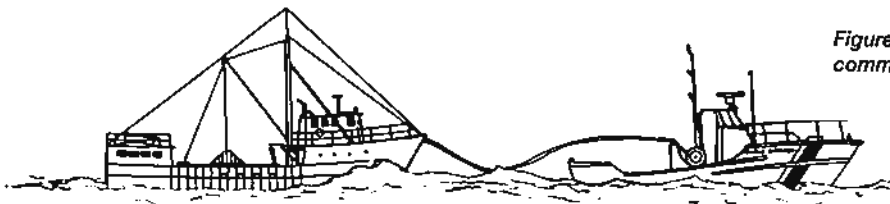

Figure 10-4. Steer and maintain the communications schedule with the towing vessel.
- * Once in tow, keep a 24-hour watch in the pilot-house to steer and/or maintain the communications schedule with the towing vessel (Figure 10-4).